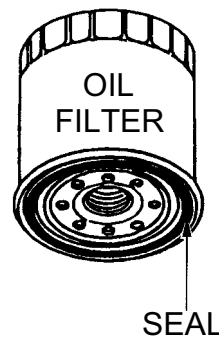

Figure 20. Oil Filter
1. Replace the engine oil filter (Figure 20) every 200 hours.